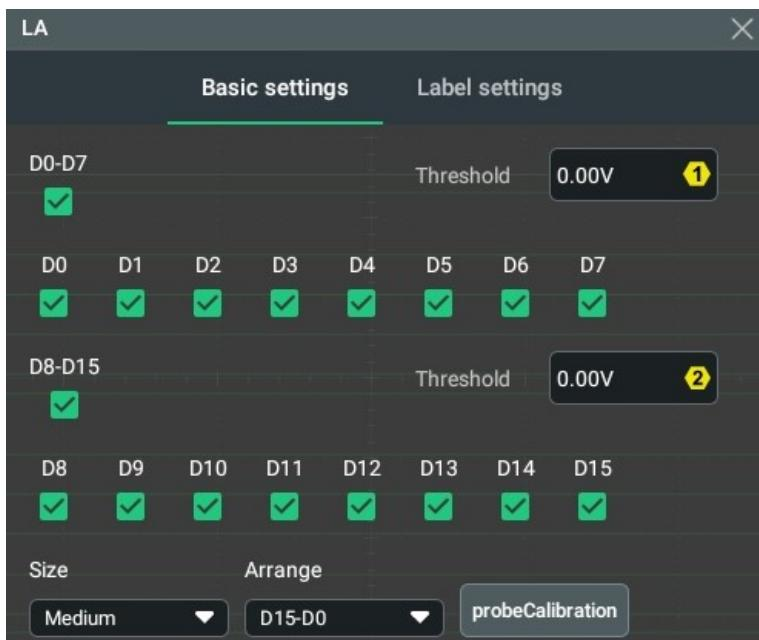

Figure 12.1 LA Menu
In the menu as shown in *Figure 12.1*, click or tap the check box of any digital channel from **D0** to **D15** to enable/disable the specified channel. You can click or tap the check box of **D0-D7** to enable/disable all channels from D0 to D7. Similarly, click or tap the check box of **D8-D15** to enable/disable all channels from D8 to D15. The check box turns into  once the corresponding channel is enabled while the check box of disabled channel is .
- In the menu as shown in *Figure 12.1*, click or tap the **Threshold** input field at the right side of **D0-D7**, and then use the pop-up numeric keypad to set the threshold for D0-D7. You can also use the corresponding multipurpose knob to set the value.
- In the menu as shown in *Figure 12.1*, click or tap the **Threshold** input field at the right side of **D8-D15**, and then use the pop-up numeric keypad to set the threshold for D8-D15. You can also use the corresponding multipurpose knob to set the value.
In the menu as shown in Figure 12.1, click or tap the **Size** drop-down button to select the waveform display size. Available options include "Small", "Medium", and "Large".
In the menu as shown in Figure 12.1, click or tap the **Arrange** drop-down button to select the waveform arrangement order for the currently enabled channels on the display.
In Figure 12.1, click or tap **ProbeCalibration** to enter the "ProbeCalibration" menu. Click or tap **Start** to start zero calibration automatically for the probe.